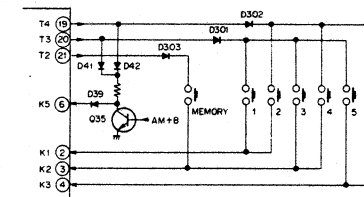

Fig. 4-11 Memory Write-in Circuit
The SX-D5000 can store up to 6 FM frequencies and 6 AM frequencies in its memory. When an input is applied to K2 according to T2 timing (MEMORY key), and then an input applied to K1–K3 according to T3 and T4 timing within a prescribed length of time (3 seconds)(STATION CALL key), the tuned frequency will be stored in one of the memories (1) to (6) (see Fig. 4-11 and Table 4). And by switching between AM and FM bands (an input applied to K5 according to T3 and T4 timing), frequencies may also be stored in memories (7) to (12).